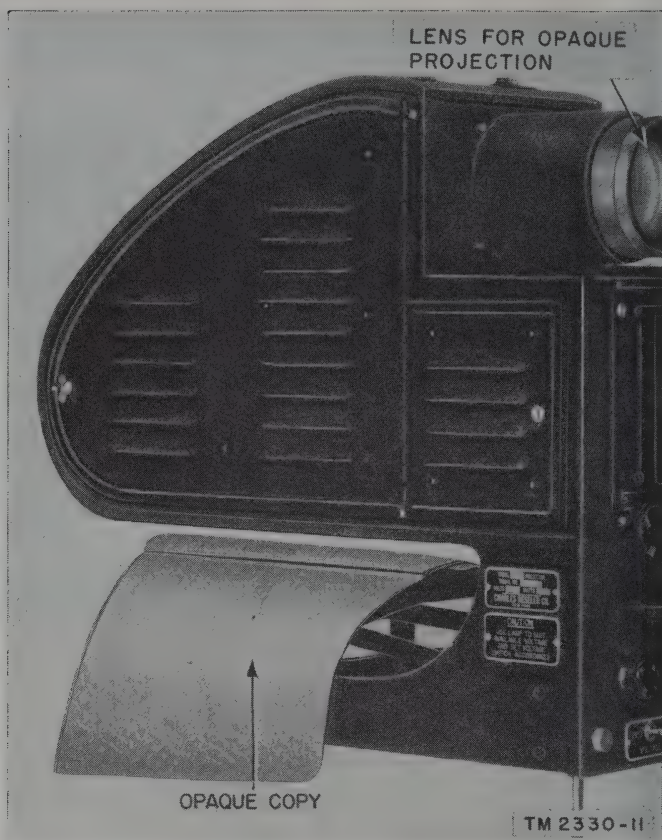

Figure 10. Projection of bound pages.
(1) *Bound pages.* Lower the opaque copy holder (*c* above). Place the copy on the platen with the bottom edge of the copy toward the screen (fig. 10). The copyholder may be returned to the closed position or retained in the open position. Throw the main switch to ON.